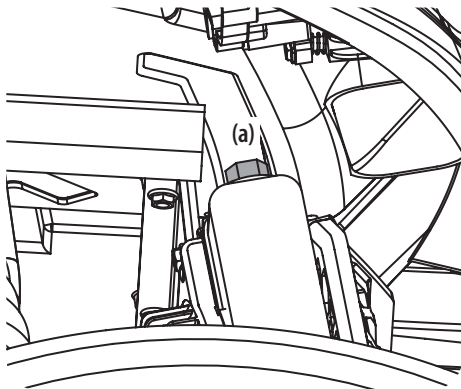

Figure 5-25
- Remove the bleeder screw (a) on the radiator, fill the radiator and when fluid begins to come out of the bleeder screw hole, replace the bleeder screw (a). The bleeder screw (a) can be accessed via the front right wheel well. See Figure 5-25.